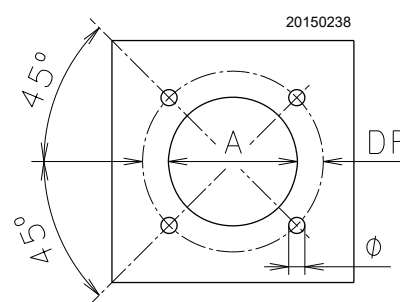

Fig. 13
Drill the combustion chamber locking plate as shown in Fig. 13 (). The position of the threaded holes can be marked using the thermal screen supplied with the burner.
- Fit the entire burner onto the boiler hole prepared previously (Fig. 13), and fasten with the screws supplied.